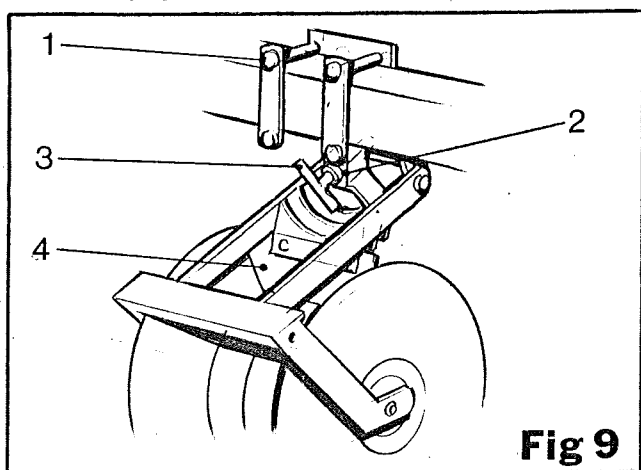

Fig 9
The diablo rollers control the digging depth whilst at the same time ensuring even digging with the help of compensator springs (item 1, fig 6), fitted either side of the harvester. The diablo rollers are adjustable for different row settings and for depth. The row setting adjustment is the same as the disc coulters, by loosening the four retaining bolts (item 1, fig 9). To adjust the depth of the diablo rollers, slacken the lock nut (item 2, fig 9) and turn the adjusting screw (item 3, fig 9) until the rollers are correctly adjusted. Again as the disc coulters, the diablo rollers are fitted with scrapers (item 4, fig 9) and these should be kept as close to the roller as possible.